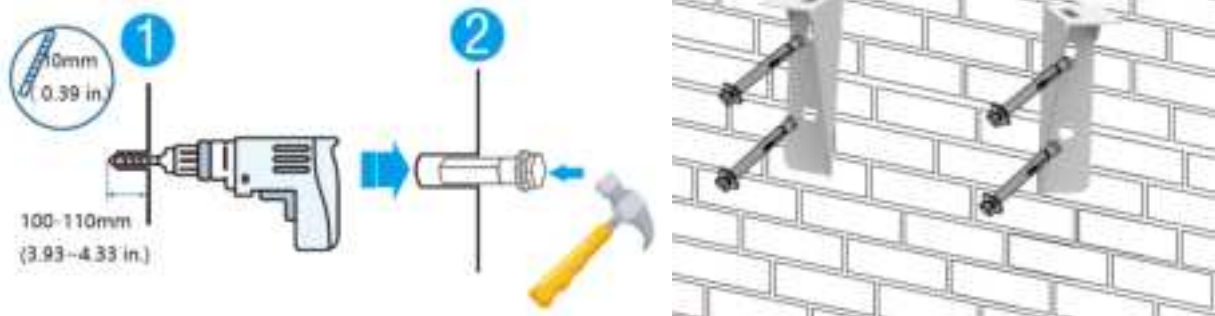

Figure 4-3
g) Choose the recommend drill head (as shown in Figure 4-3) to drill 4 holes on the wall, 100mm-110mm deep.
h) Use a hammer to secure the support to the wall, and install the expansion bolt in the hole, as shown in Figure 4-3.